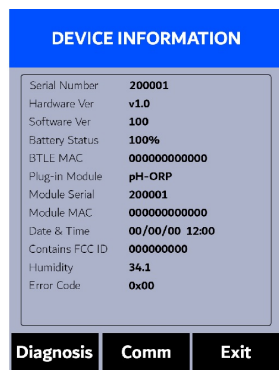

Figure 49.
The **DEVICE INFORMATION** screen is launched when **System** (OK) is pressed in the measurement mode. This screen contains the device serial number, software version, and hardware version (Figure 49). The battery life as a percentage and the MAC addresses for main module also shown.